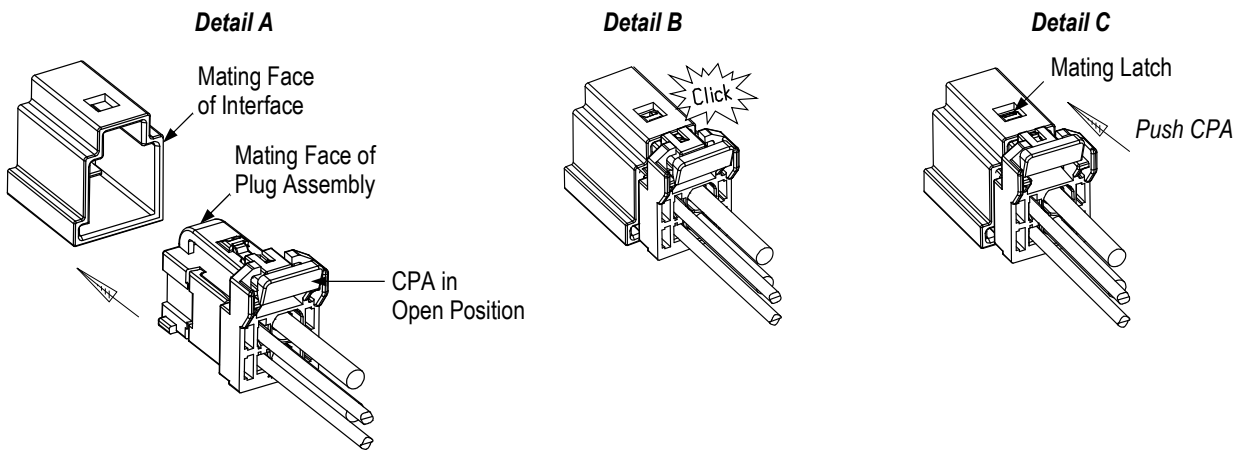

Figure 5
1. Ensure that the CPA is in the open position shown in Figure 5, Detail A. Align the mating face of the plug assembly with the mating face of the interface.
2. Insert the plug assembly into the interface until there is an audible and tactile click. See Figure 5, Detail B.
3. From the wire end of the plug assembly, push the CPA into the plug assembly until there is an audible and tactile click. See Figure 5, Detail C. Make sure that the force applied to the CPA is inward (in the mating direction) and upward (toward the mating latch) to guarantee proper alignment between the CPA and interface. If the CPA will not move to the locked position, ensure that the plug assembly is fully mated to the interface.